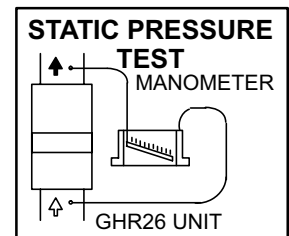

FIGURE 38
- 1 - Measure tap locations as shown in figure 38.